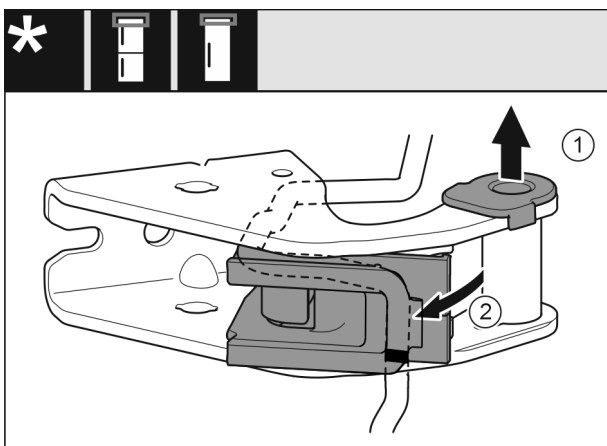

Fig. 26
- ▶ Pull the bearing bush out of the guide. Fig. 26 (1)
- ▶ Swing the cable holder out. Fig. 26 (2)